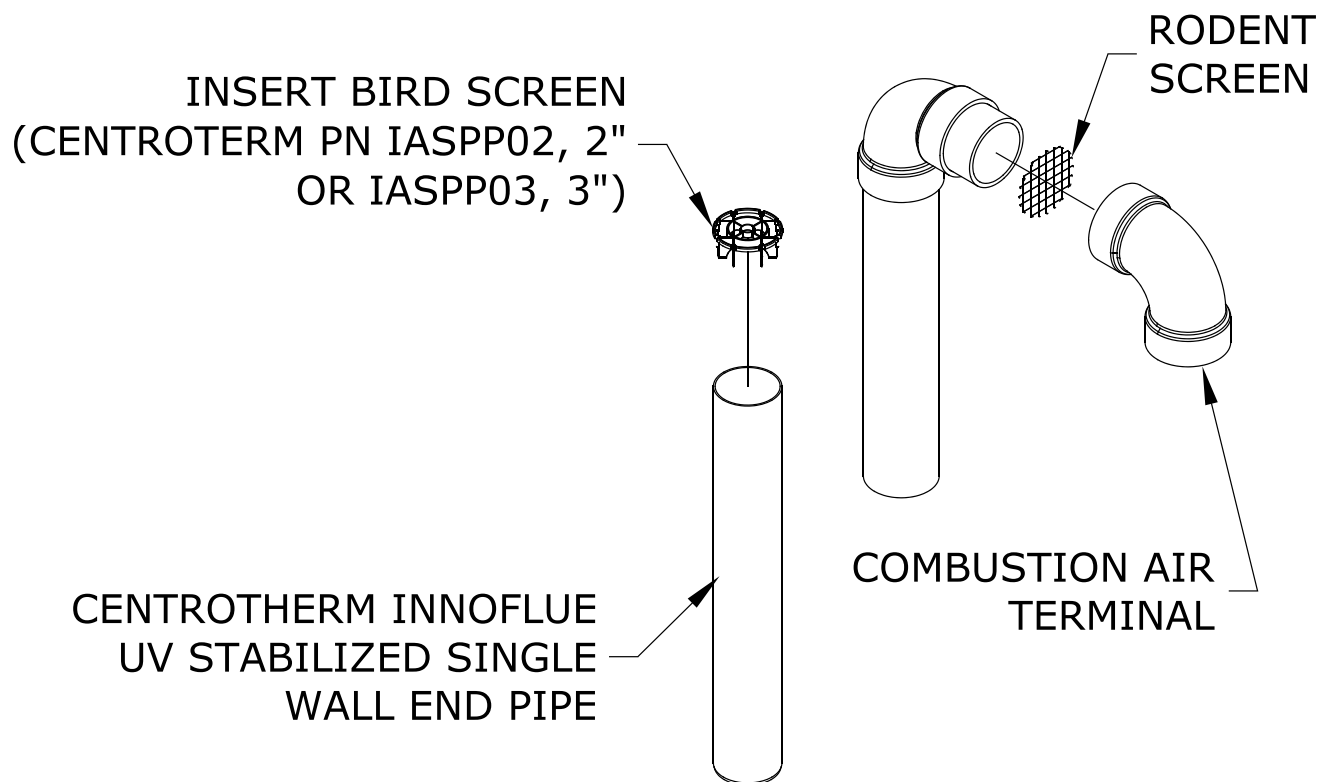

Figure 7.46: Installation of Centrotherm InnoFlue UV Stabilized Single Wall Vertical Terminal
- a. See Figure 7.46 for the proper orientation of twin pipe vertical terminals.
- c. A 180° bend (or two 90° elbows) are installed on the top of the air intake pipe. If two 90° elbows are used, a rodent screen can be installed between them (Figure 7.46). If a 180° bend is used, install a rodent screen in the open side of the bend, using a ring made of PVC pipe. If desired, the termination fittings can be attached to the end of the intake pipes with field supplied stainless steel screws so that they can be later removed for cleaning and inspection. If this is done, drill a clearance hole in these fittings and a tap hole in the end of the intake pipes to accept these screws.